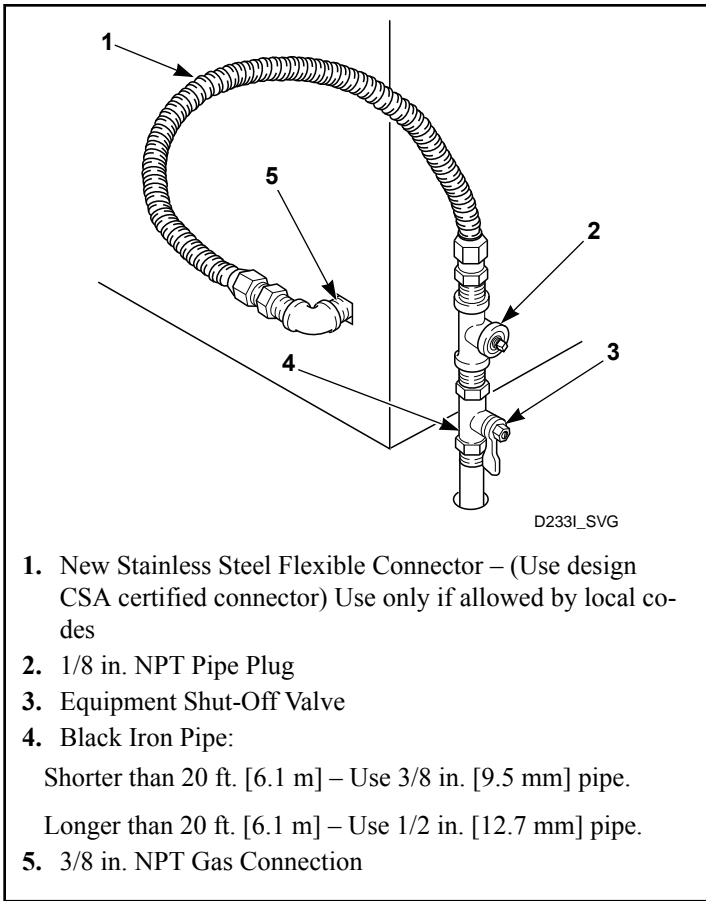

Figure 5
**NOTE:** When connecting to a gas line, an equipment shut-off valve in accordance with the National Fuel Gas Code, ANSI Z223.1/NFPA 54 and the Natural Gas and Propane Installation Code, CSA B149.1 must be installed within 6 feet [1.8 m] of the dryer. An 1/8 in. NPT pipe plug must be installed as shown for checking inlet pressure. Refer to *Figure 5*.